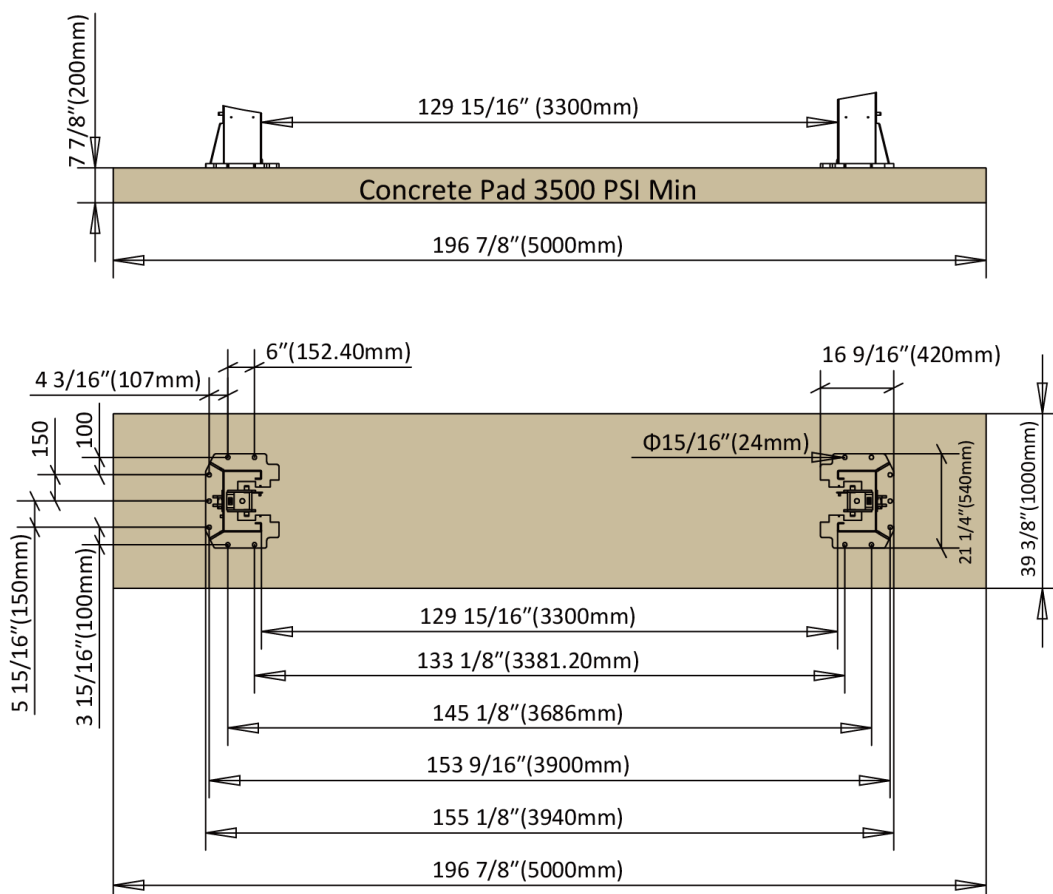

FIG 4
- ◆ **Use a carpenter's chalk line to establish installation layout of baseplate(See Fig4).**